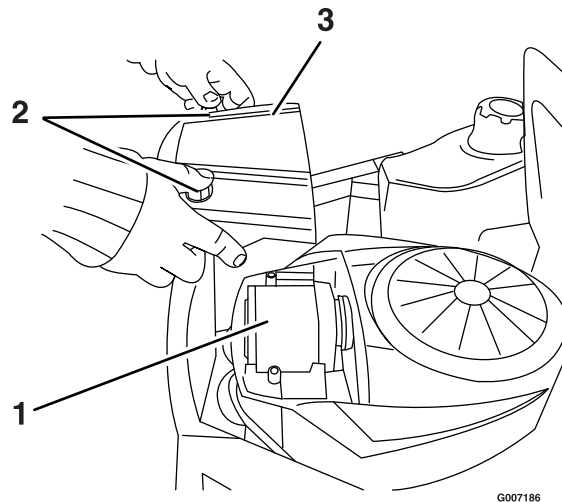

Figure 19
1. Remove the air cleaner cover (Figure 19).